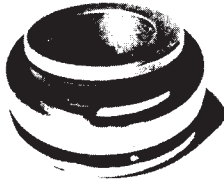

Figure 10
**Step 5** — Insert stationary seat into the stationary seat carrier and place the “O” ring gasket onto the stationary seat carrier. (Fig. 10).